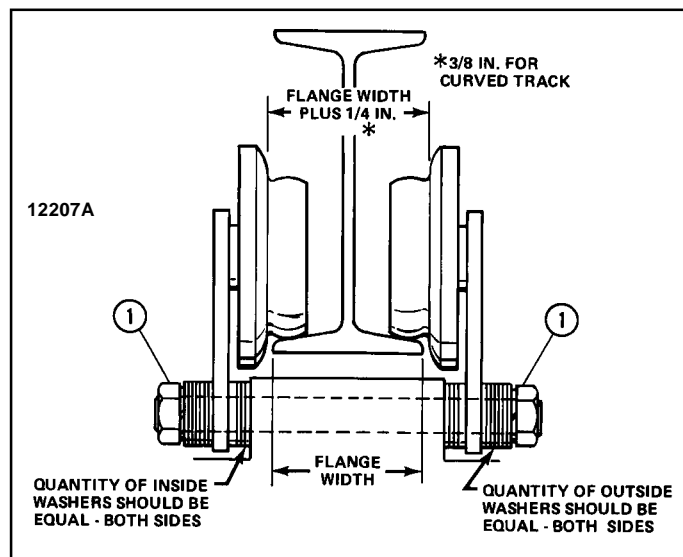

Figure 2-1. Sectional View of Trolley showing proper wheel and washer spacing
- b. Trolley Mounted hoists are attached to moveable trolleys. If hoist is mounted on an existing trolley, a qualified person shall determine that the trolley and its supporting structure are adequate to support the rated load and weight of the hoist. Hoist/trolley units may be shipped from the factory with trolley packaged separately. If the trolley can be installed directly over the end of the supporting beam, assemble trolley to hoist. Be certain that the spacing between wheel flanges, after assembly, is 1/4" greater than exact width of beam flange. (See Figure 2-1 below and instruction sheet furnished with trolley.) Using proper equipment, carefully lift trolley and hoist and install on end of beam.
For trolleys which are to be mounted along the span of a beam not having open ends, measure exact width of beam flange and assemble trolley to hoist so that spacing between wheel flanges is 1/4" (see Figure 2-1) greater than beam width (3/8" if beam has curves). This is accomplished by rearranging the spacer washers on the bolts connecting trolley side plates to hoist mounting lug. If trolley is shipped separate from hoist, see instruction sheets furnished with trolley for orientation and installation.
When proper spacing has been determined, loosen mounting nuts (Item 1, Figure 2-1) to allow trolley wheels to spread far enough to pass over edges of beam flange. (Some installations may require complete removal of one trolley side plate.) Using adequate equipment carefully lift the hoist and trolley so the wheel treads will rest on the lower beam flange. Replace side plate and washers if removed for installation. Replace suspension stud nuts.